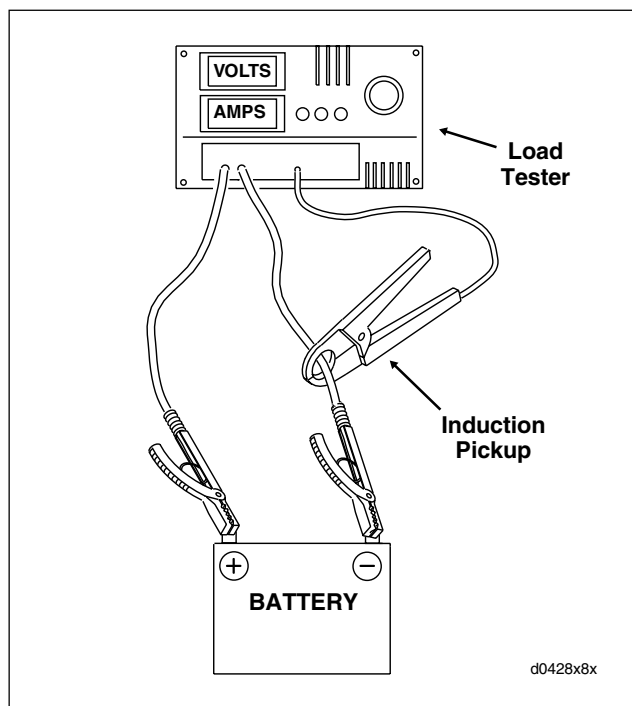

Figure 1-20. Load Test Battery
7. Connect tester leads to battery posts and place induction pickup over negative (black) cable. See Figure 1-20.